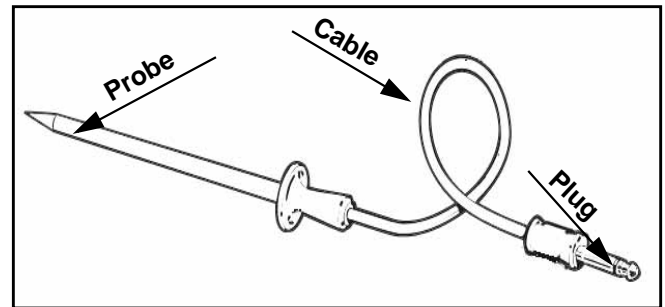

Figure 27: Meat Probe
2. Insert the plug end into the outlet (Figure 27).